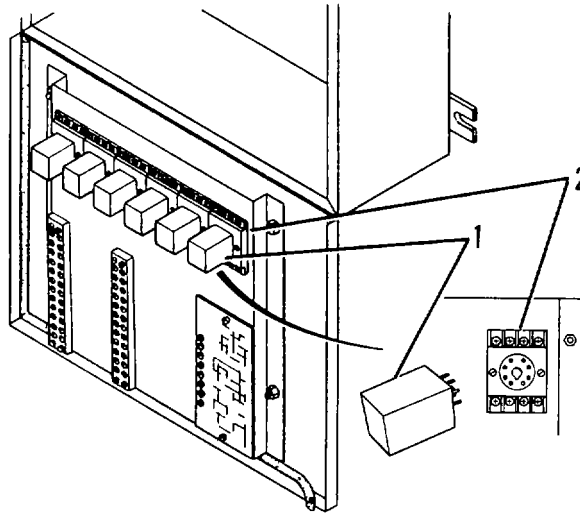

Figure 4-6. Relay Replacement.
- (1) Removal. Relays are plug-in type relays. To remove, pull relay (1, Figure 4-6) from mount (2). Discard relay.
- (2) Installation. Align pins on relay (1) with holes in mount (2). Press relay firmly into mount.